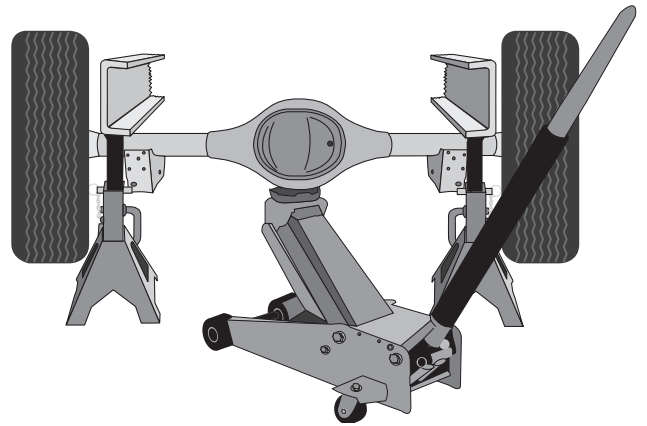

Fig. 1
1. Jack up the rear of the vehicle or raise on hoist. Support the frame with safety stands (Fig. 1).